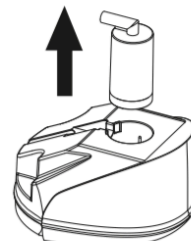

Fig.3
2. Take the filter upwards out from the water fill hole. (You can take the filter out of the opening for filling water into water tank, or fill water into water tank directly with the filter existing in the opening). (Fig.3)